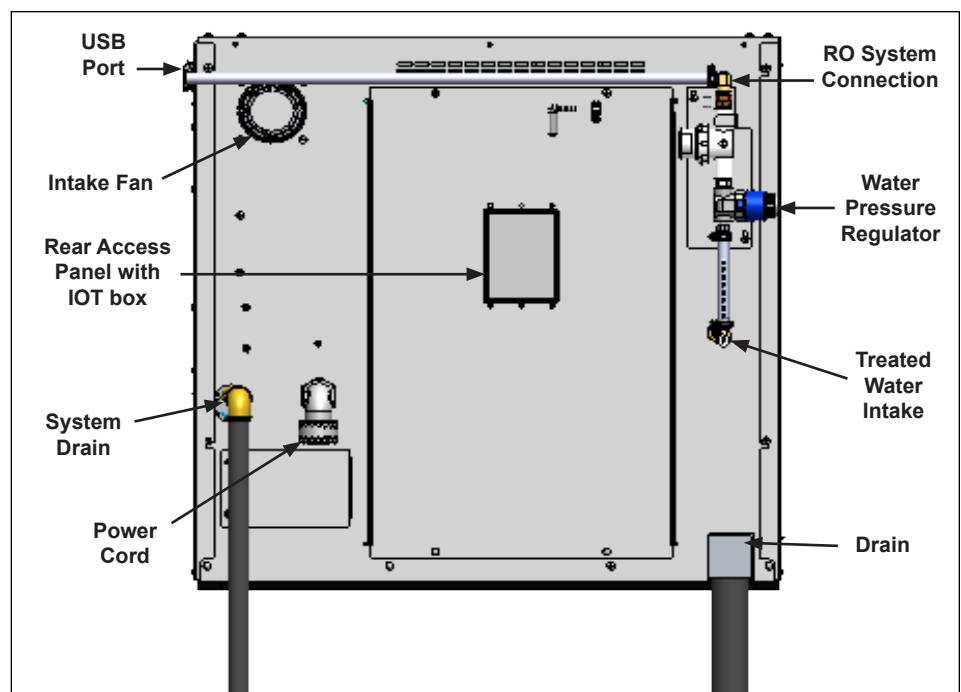

Figure 3. Steamer Connections and Items (Rear of Steamer)
1. Connect the water treatment system to the treated water inlet according to Figure 3 on page 6.